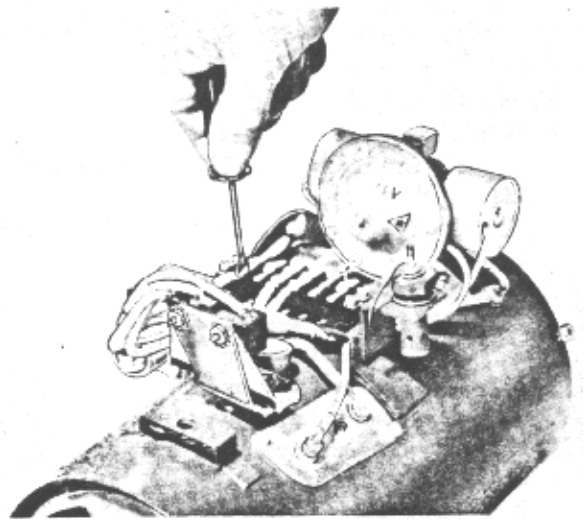

Figure 31
1. Disconnect the five flame detector switch leads from terminal strip screws Nos. 2, 3, 4, 6, 7 (Figure 31).